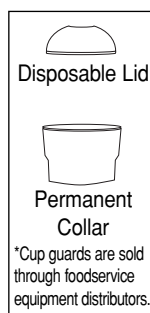

Figure 1
- Place a cup guard on the cup (See Figure 1). Hold the cup (and lid or collar) securely in your hand (**from the side, not from the bottom**)